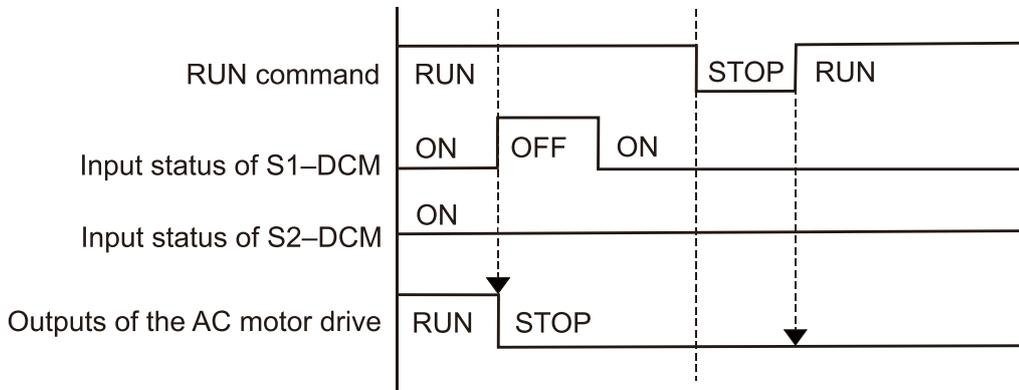

Figure 17-8
As shown in Figure 17-8, when S1-DCM is OFF during operation (STO function is required) and S2-DCM is ON (STO function is not required), the drive stops outputting and the keypad shows the STL1 error. However, you cannot reset the STL1 error even if the S1 status is restored (ON) regardless of the parameter setting. You must cycle the power to reset and to restore the drive to the normal standby state.